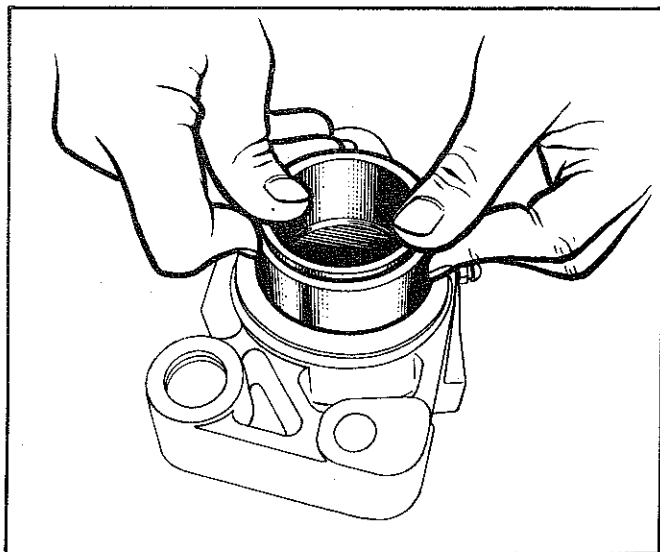

Fig. 8—Installing caliper piston
- (3) Locate the piston in the caliper body and push it to the bottom of the bore by hand. Refer Fig. 8.
- (4) Install the rubber boot onto the piston and caliper body.